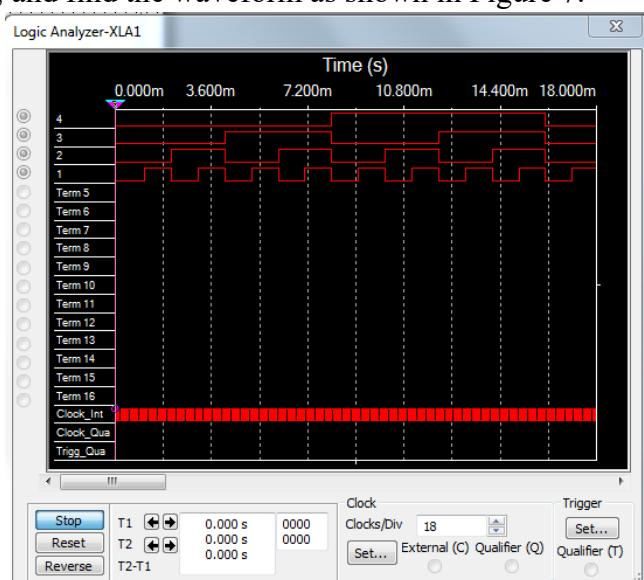

Figure 7. Waveform 1.
- Run the simulation, you can change the “Clocks/Div” to zoom in/out in the time axis, and find the waveform as shown in Figure 7.